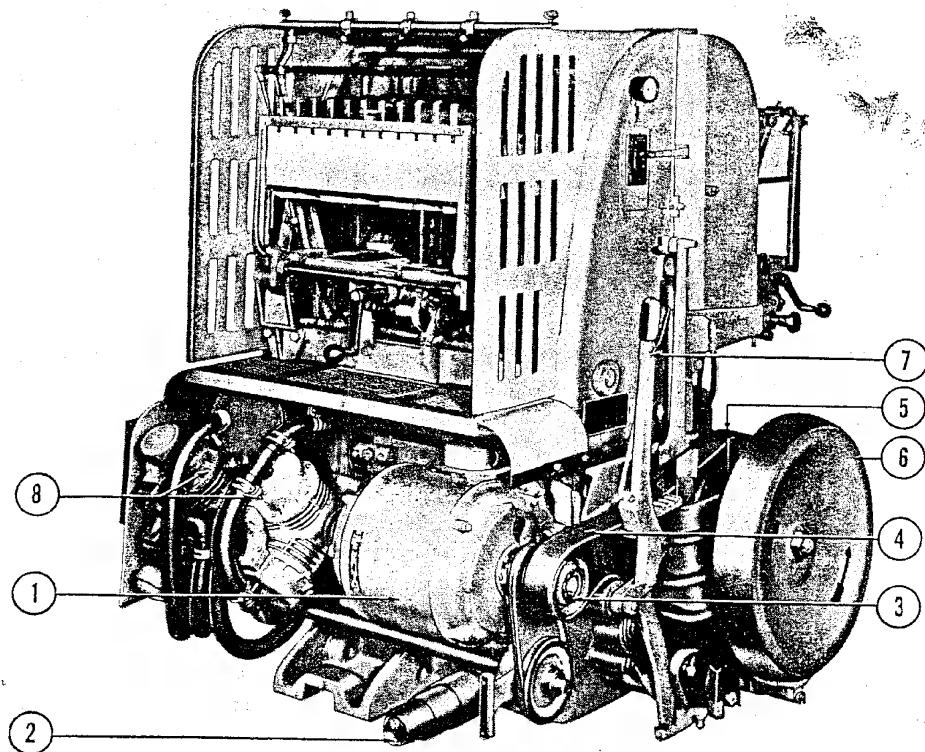

Figure 9—Drive and Air Pumps
**g. DRIVE.** (See figure 9.) — The V-50 press is driven by a 3 h.p. constant speed motor (1). Five speed-change pulleys (2) supplied with the press are easily installed on a motor drive shaft splined adaptor (3) and provide for press speeds of 3,000, 3,500, 4,000, 4,500 and 5,000 impressions per hour. A press driving belt (4) links the speed pulley directly with a flywheel pulley (5) which in turn is directly geared with the press main cam shaft. A heavy flywheel (6) attached to the flywheel pulley shaft insures smooth press operation. A belt tightener lever (7) provides for gradual starting or stopping of the press, while the drive motor is running, by flywheel braking and belt slackening adjustment.
**i. AIR SYSTEM.**—The blast and suction for the press are supplied from two diaphragm-type pumps, (8) figure 9, mounted at the delivery end of the press. The pumps are belt driven from a common drive shaft which is belt connected to the press motor drive shaft. The mounts for the pumps and motor are screw adjustable to maintain proper belt tension. The pumps require no lubrication, thereby reducing the possibility of oil entering the blast lines and staining the job being run.